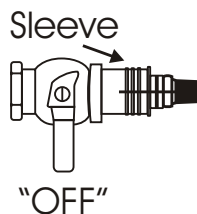

Fig. 23
2. Insert the plug and release the sleeve. (Fig. 23)